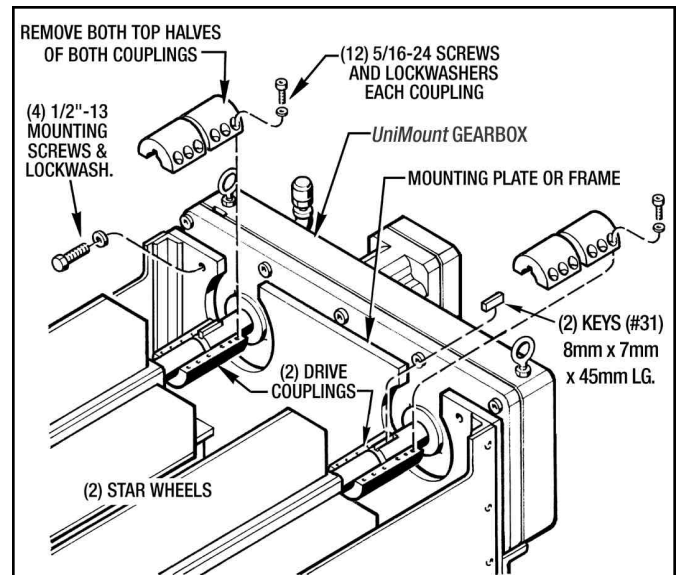

Figure 4.2 - Removing Gearbox From Auto Catcher
5. Take out the (4) Screws (#44) and (4) Lockwashers (#45) and remove the Servo Motor from the Planetary Gearhead (#18).
6. Remove the (12) Screws from the both top halves of the Starwheel Couplings on the Gearbox Side and remove them. (See Figure 4.2)
7. Remove the (4) 1/2-13 Mounting Screws and Lockwashers that attaches the Gearbox to the Auto Catcher Mounting Plate or Frame. (See Figure 4.2)